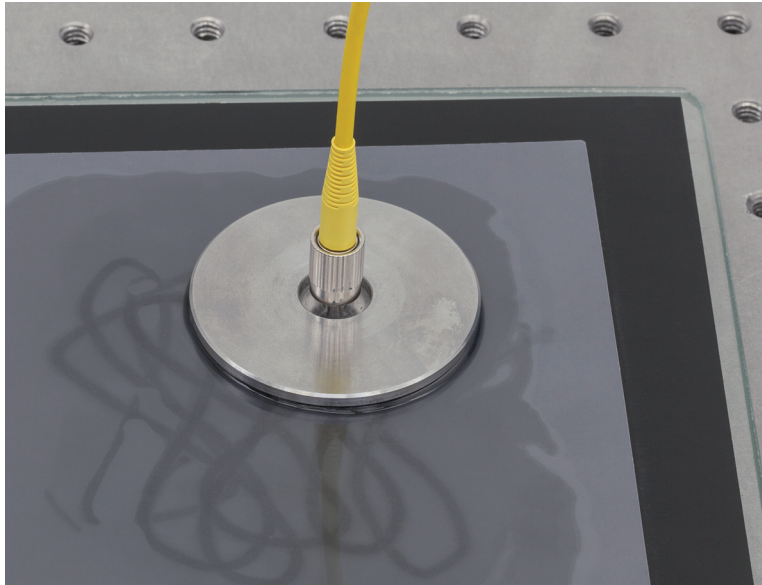

Figure 24 The Final Polish
An optional final polishing step can be performed using final polishing film (Item # LFCF). The LFCF film is clear so be sure the shiny side is facing down for the correct polish. Place three to four drops of distilled water on the film. Place the polishing disc and connector on the water and make two or three figure eight patterns, always polishing on a fresh, clean piece of the film as shown in Figure 24. This step should result in a finer polish than that achieved from the 1 μ m polish and result in lower light losses.
- There are no heavy scratches through the core of the fiber. Light, random scratches in the fiber cladding are acceptable. However, the majority of the area of the fiber should be free of all visible scratches or defects. Magnified views of a well polished and a poorly polished fiber are shown in Figure 24.